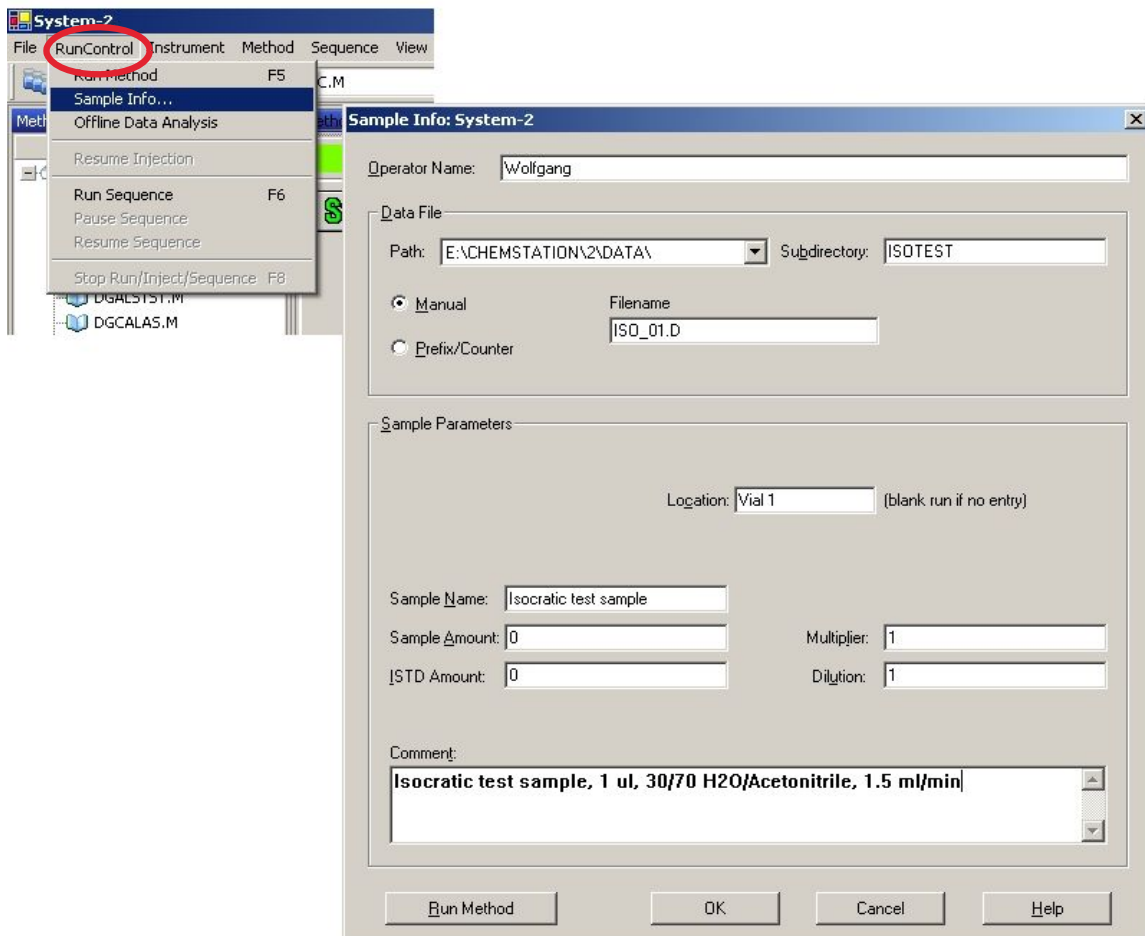

Figure 19 Sample Information
- 14 Select the menu item **RunControl > Sample Info** and enter information about this application (Figure 19 on page 59). Press **OK** to leave this screen.